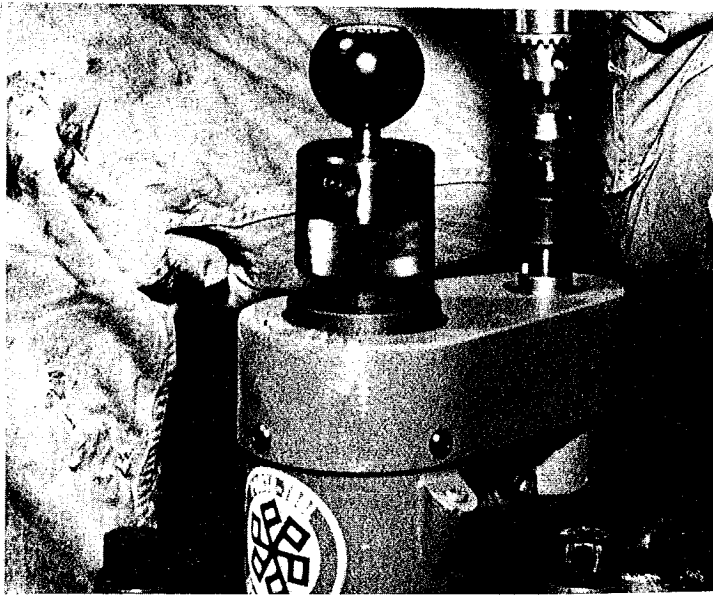

Fig. 2
3. Install Porta-Matic tool on the block and release the needle valve by rotating the knob (1) counterclockwise to lower the cutter plate down into the liner pilot bore, back the depth set collar (2) off until it is flush with the top of the spline shaft see Fig. 2. **NOTE:** Check oil level before boring. Remove oil fill plug (3) and check oil level in the hydraulic feed unit. Fill to top with S.A.E. 10, 20, or 30 weight oil. Install the pipe plug and cycle the bar up and down a few times. Recheck oil level. Fill again if necessary. Repeat the procedure as necessary until the whole chamber is filled with oil and free of air. If oil level is low chatter may occur as the tool feeds downward.